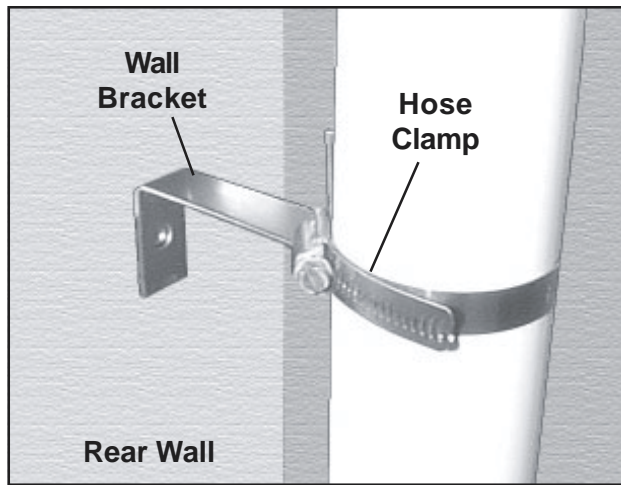

Figure 81. Air Intake Pipe with Wall Bracket
3. Loosen the hose clamp (Figure 81) that holds the pipe to the wall and free the pipe from the clamp. Leave the bracket secured to the wall.
2. Insert the pipe into the hose clamp and tighten the hose clamp (Figure 81).
2. Loosen the hose clamp (Figure 81) that holds the pipe to the wall and free the pipe from the clamp. Leave the bracket secured to the wall.